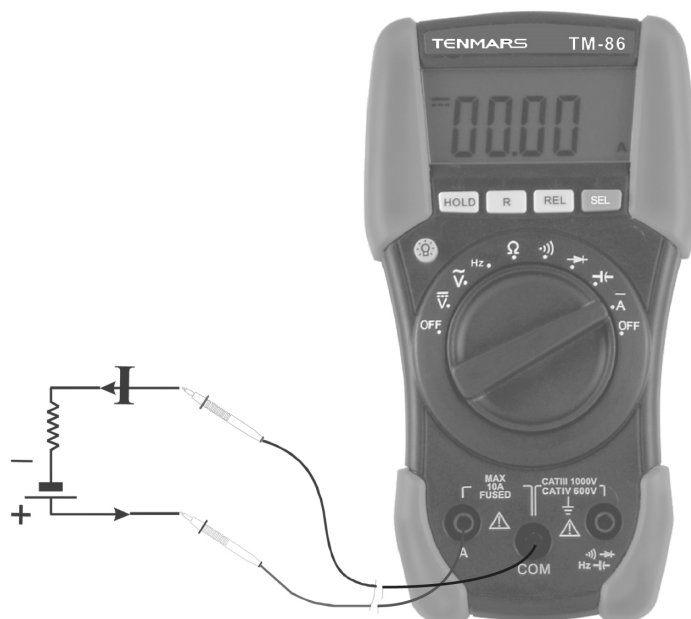

Fig. 4: Using the instrument for DC Current measurement
3. Insert the test leads into the jacks, the red plug into **A** jack and black plug into **COM** jack (see Fig. 4).